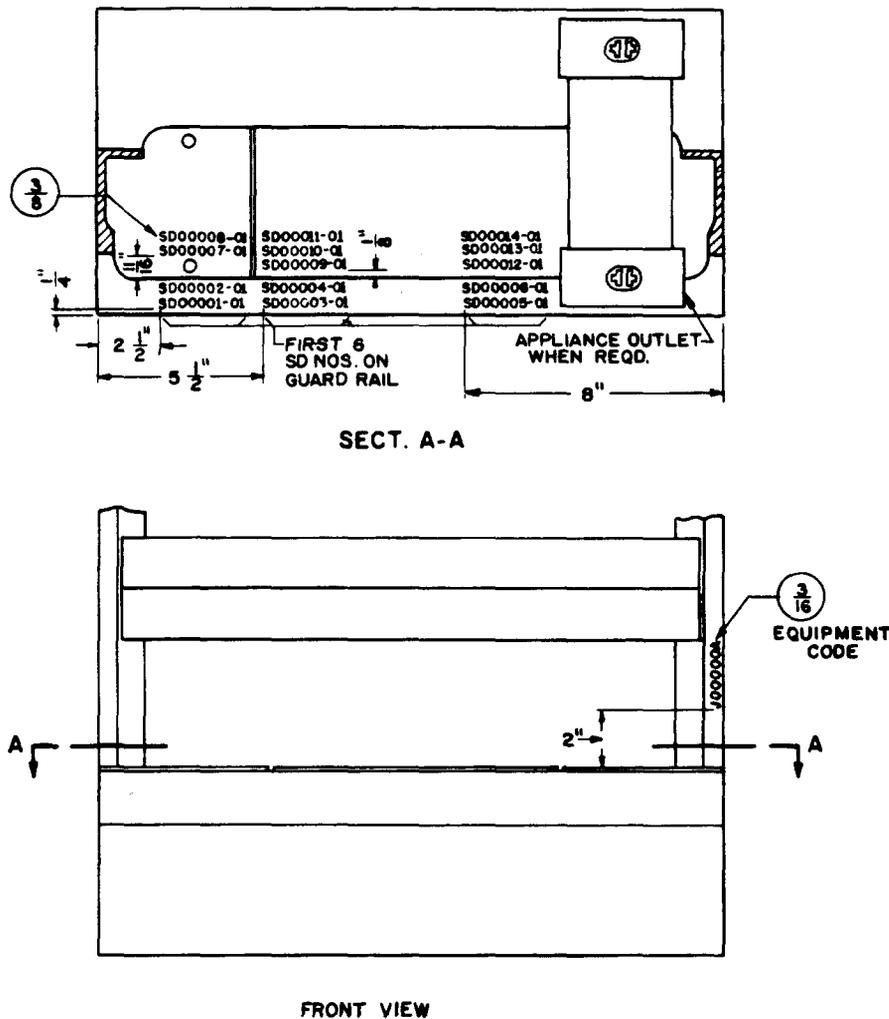

Fig. 3 - SD Drawing Number and Equipment Code Designation for Frames With Bulb-angle Uprights and Sheet Metal Base - Single Bay or Left Bay of 2-bay Frame
2.04 SD Drawing Numbers: Locate the SD drawing number for the bay or frame per Fig. 3. Only the base and suffix number shall be stamped. On relay rack bays equipped with relay equipment units and step-by-step switch frames equipped with shelf-mounted equipment, SD numbers are not required.
2.05 Equipment Code Designations: Stamp as shown in Fig. 3.